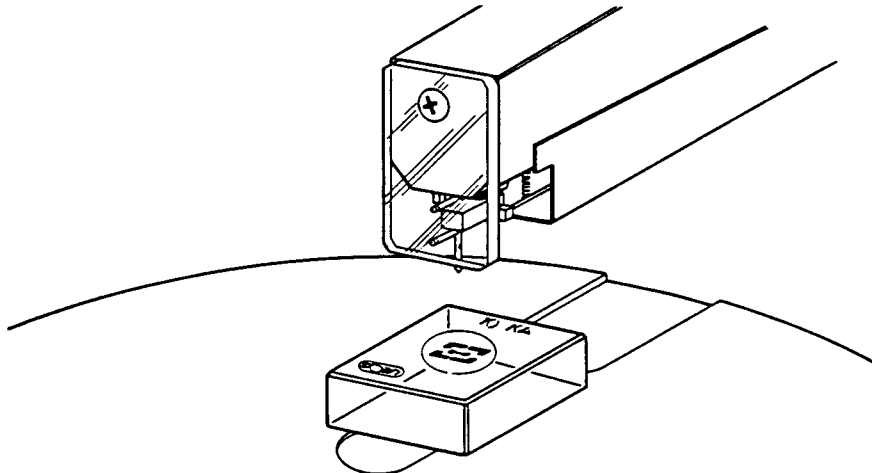

Figure 4-5. Positioning the Calibration Standard
4. Move the stage back by angling the joystick to the right. Position the stage until the calibration standard is centered below the stylus as shown in Figure 4-5.